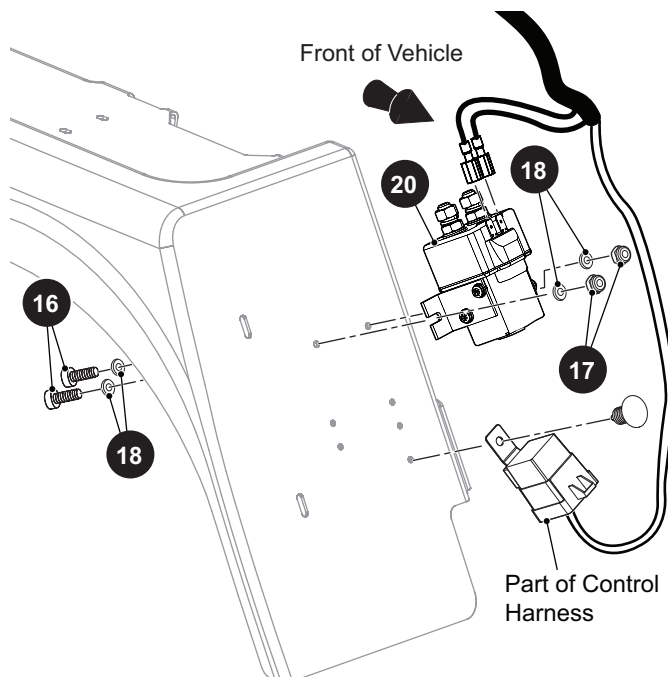

Fig. 11 Solenoid Replacement
1. Disconnect the wires from solenoid (20).
2. Remove the two screws (16), washers (18) and nuts (17) to remove the solenoid (20) from the rear fender (Ref. Fig. 11).
3. Mount new solenoid (20) and connect the wiring.
4. Tighten the nut (17) to torque value specified below.